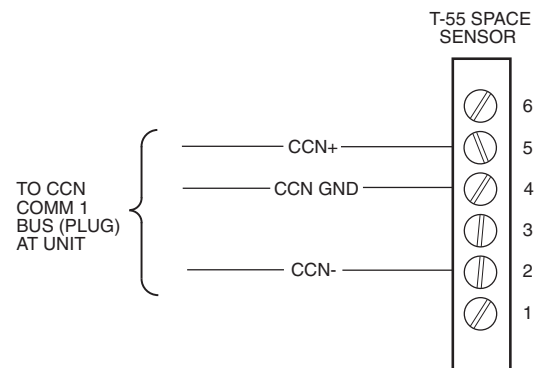

Fig. 25 — CCN Communications Bus Wiring to Optional Space Sensor RJ11 Connector
- Units on the CCN can be monitored from the space at the sensor through the RJ11 connector, if desired. To wire the RJ11 connector into the CCN (Fig. 25):